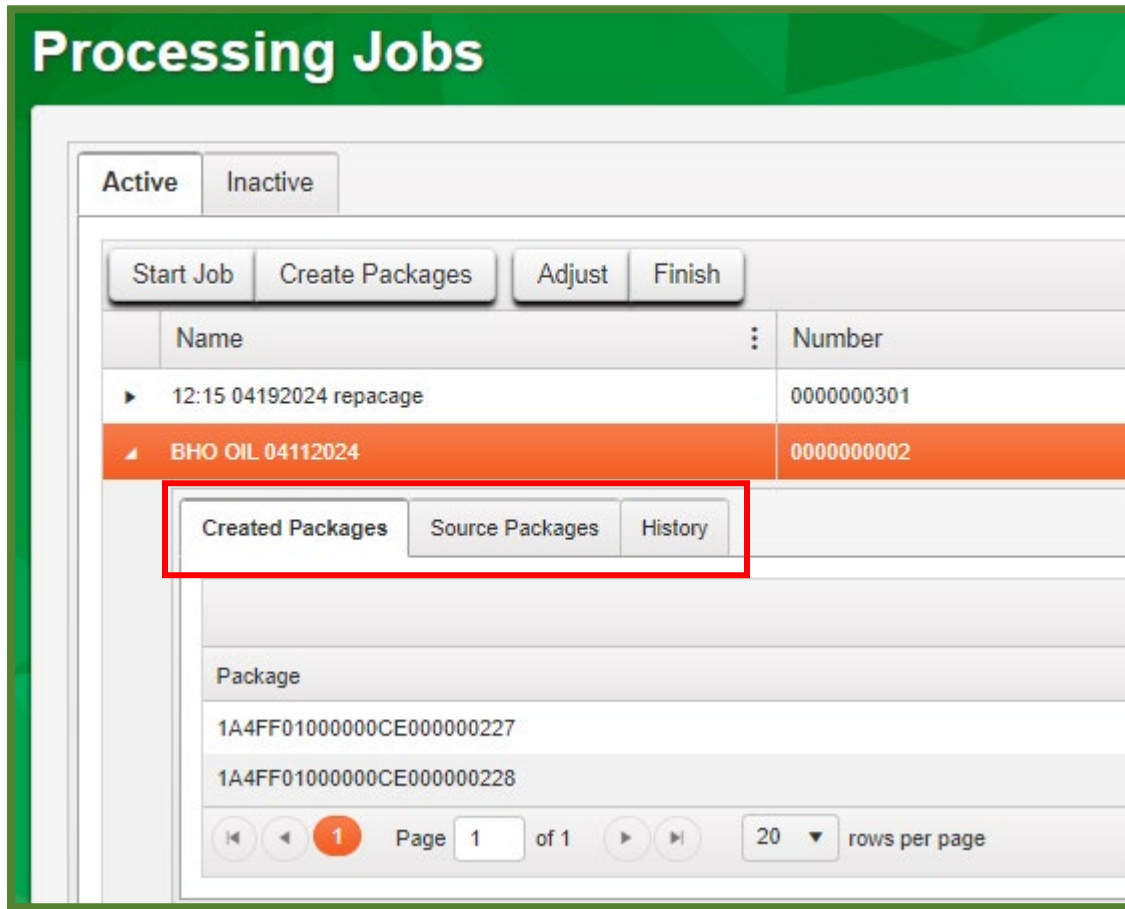

Figure 14: Processing Job Package details
1. Information on the created batch packages, source packages, and history are available via the drilldown arrow to the left of the Processing Job - **see Figure 14 below.**